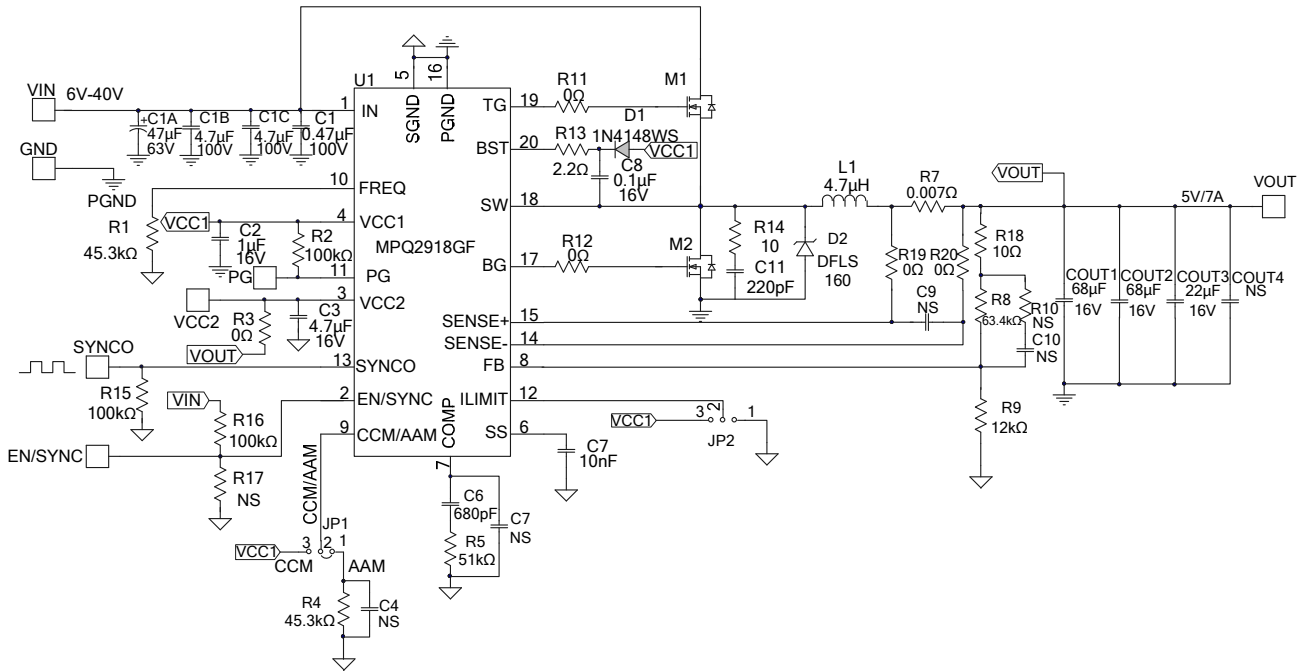

Figure 12: 5V Output Application Circuit for TSSOP Package
The diode between SW and PGND (shown as D2 in Figure 12) is used to absorb spikes, store charges during dead time, and protect the body diode of the LS-FET. Considering the size and power loss during the dead time, a 1 - 3A Schottky diode is recommended.
- 6) The recommended PCB layout is based on Figure 12.